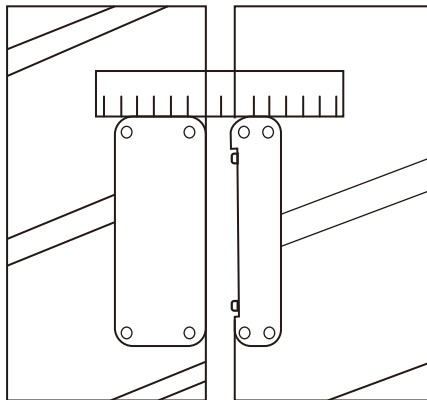
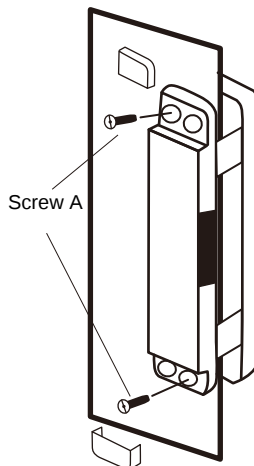

Fig. 1
Fig. 2
2. Remove the 4 side screws from the inner panel of the main unit (Fig. 1). Lift the flat cable connector latch and unplug the cable (Fig. 2).
1. Use a ruler to mark the approximate installation height on the glass. Adhere the main unit mounting pad and secondary lock mounting pad to the glass door at the marked level (see Fig. 1).
2. Slide the main unit into the main unit mounting pad and clamp it firmly. Secure with 4 × Screw A (see Fig. 2).
1. Remove the 4 side screws from the inner panel of the main unit (Fig. 1). Lift the flat cable connector latch and unplug the cable (Fig. 2).
3. Mount the stud bolts onto the outer panel and tighten. Install the outer panel on the door and feed the cable through the door hole (Fig. 1).
4. Install the mounting plate on the door. Tighten Screw A against the stud bolts to secure (Fig. 1).
5. Install the inner panel onto the mounting plate and tighten with the inner panel screws (Fig. 2).